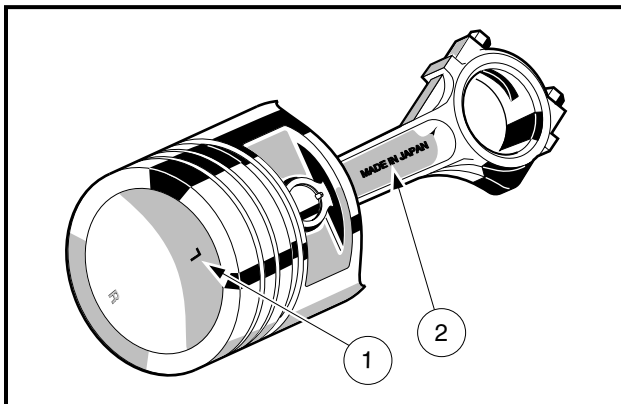
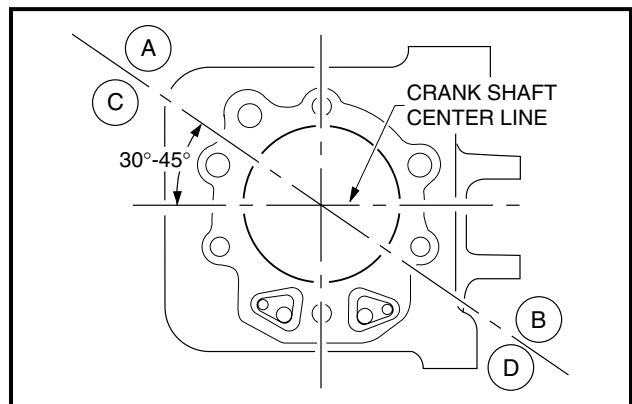

Figure 18-88 Piston Head and Connecting Rod Alignment
Figure 18-89 Piston Ring Gap Alignment
3. If the link rod was removed from the PTO side of the crankshaft, support the crankweb as shown, slide the link rod onto the crankshaft, and install the key. Press the spur gear and helical gear onto the crankshaft (Figure 18-88, Page 18-41 and Figure 18-89, Page 18-41). See following **CAUTION** and **NOTE**.
2. Assemble the piston and the connecting rod into a unit, if disassembled. Align the L mark (1) on the piston head toward the lettering MADE IN JAPAN (2) on the connecting rod (**Figure 18-88, Page 18-41**).
4. Place the piston/connecting rod into the cylinder bore with the lettering MADE IN JAPAN on the connecting rod oriented toward the flywheel side of the engine. Position piston ring gaps so that they are oriented toward the corresponding letters (**Figure 18-89, Page 18-41**): (A) Top Ring Gap, (B) Second Ring Gap, (C) Upper Side Rail Gap, (D) Lower Side Rail Gap.